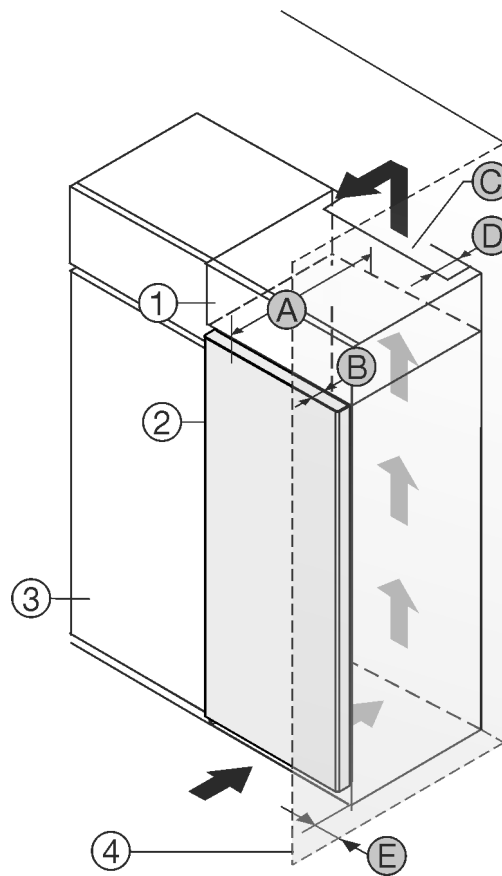

Fig. 1
- (1) Top cupboard *
- (2) Appliance *
- (3) Kitchen cabinet *
- (4) Wall *
- (A) Appliance depth *
- (B) Door depth *
- (C) Ventilation cross section *
- (D) Distance to the back of the appliance *
- (E) Distance to the side of the appliance *
You can place the appliance directly beside the kitchen cabinet Fig. 1 (3).
There must be a ventilation shaft at the depth Fig. 1 (D) of the back of the top cupboard over the entire width of the top cupboard.*
The ventilation cross-section Fig. 1 (C) must be maintained under the ceiling.*
If the appliance is set up with the hinges next to a wall Fig. 1 (4), the distance between the appliance and the wall must be at least 13 mm.*
If the appliance is set up with the hinges next to a wall Fig. 1 (4), the distance between the appliance and the wall must be at least 20 mm.*
In order to be able to fully open the door, the appliance must protrude by the depth of the door Fig. 1 (B) from the front of the kitchen cabinet. The appliance may protrude further depending on the depth of the kitchen cabinets Fig. 1 (3) and whether wall spacers are used.*